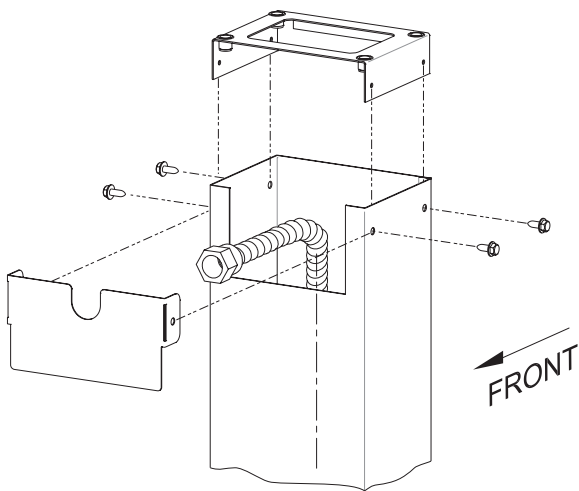

Figure 6
4. Attach the grease cup bracket assembly to the bottom of the grill casting and fasten with #10-24 x 3/4" bolt, 9/32 ID x 5/8 OD washer, and #10-24 wing nut. See Figure 6.
For Grill Heads other than R3 Series: Slide the Upper Bracket into the post. Secure the Upper bracket to the top of the square post using four #10 – ½ Self Drill screws. See Figure 6.